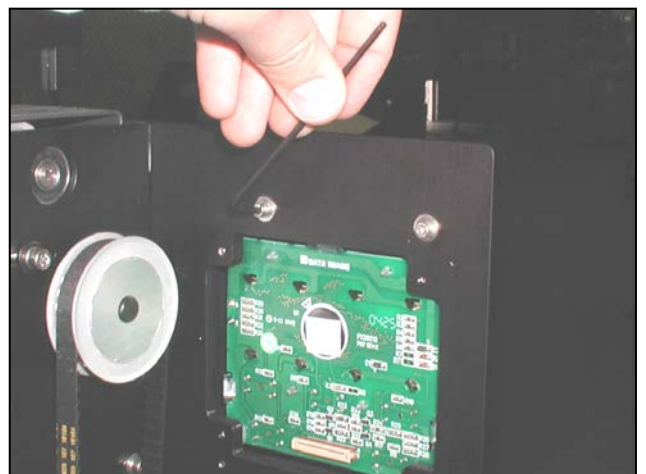

Figure 3-135. Remove LCD Module Cover Screws
3. Remove the two screws holding the Printer Front Panel (Figure 3-135). Remove panel and set aside.